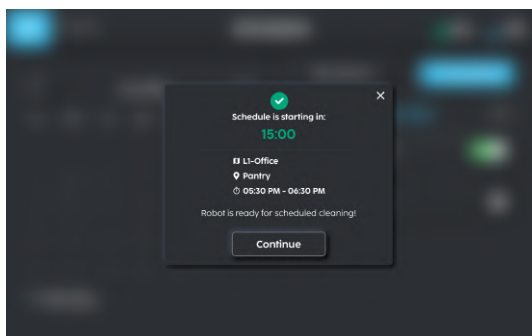

FIGURE 6-29
2. If the machine is ready to clean, it will show a tick and the location of the schedule (**Fig. 6-29**).